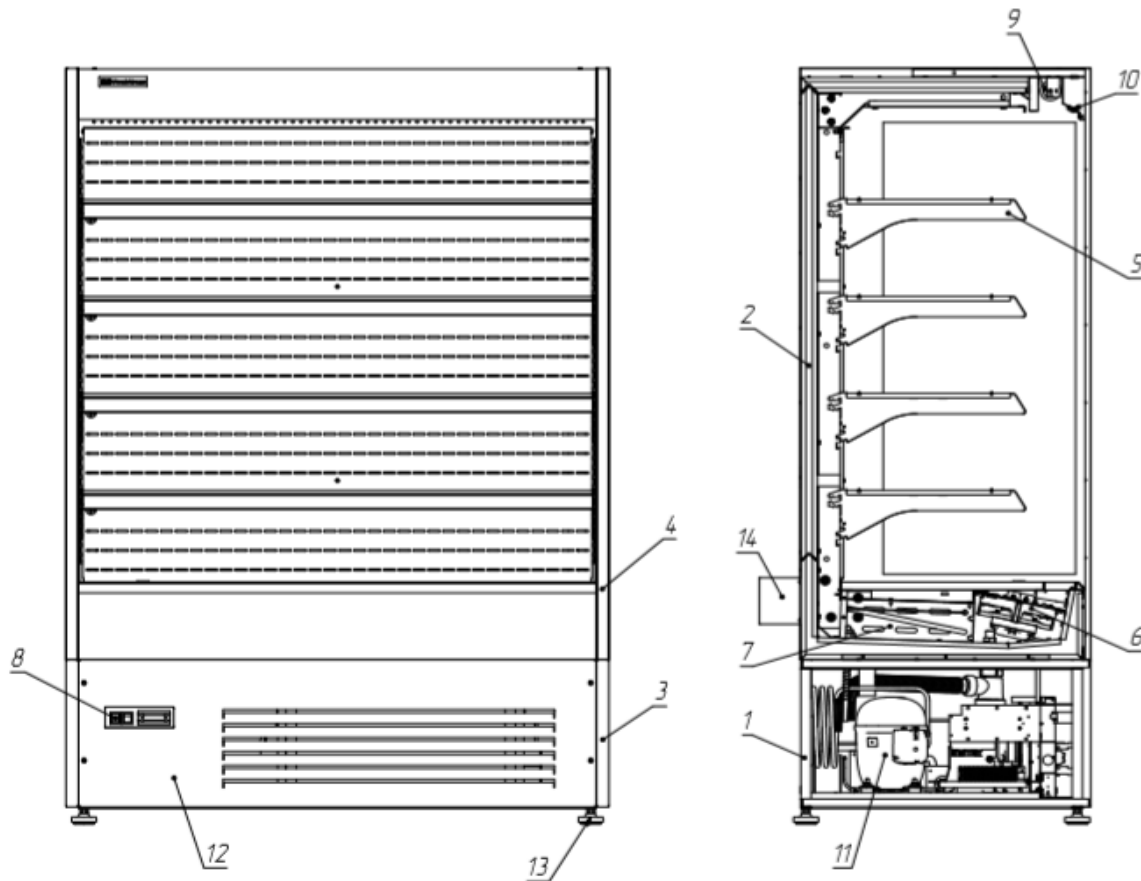

Figure 12 – Arrangement of major units and components
- set the power circuit-breaker on the control panel (pos. 6 Fig. 12) to the position corresponding to “ON”. Turn on the lighting switch;